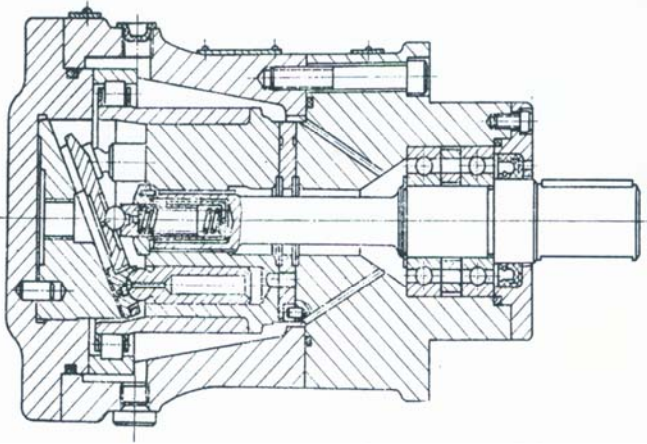

Figure 2 MCY14-1B (Fixed Displacement) Pump Structure Principl
4.2. MCY14-1B Type (Fixed Displacement) Pistion Pump (Figure2)